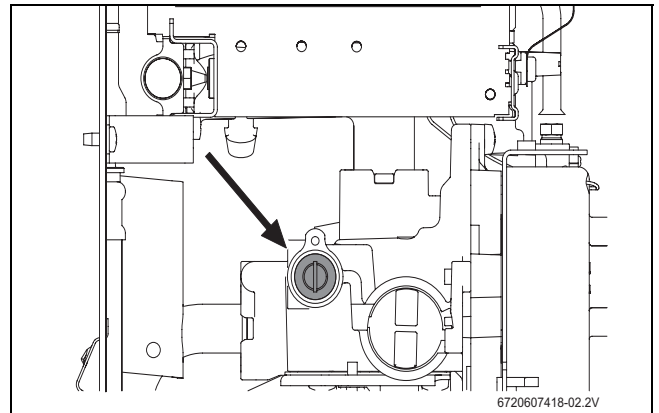

Fig. 17 Maximum gas flow adjusting screw
- ▶ Remove the seal from the adjusting screw (Fig. 17).
- ▶ Using the adjusting screw (Fig. 17), regulate the gas pressure until the values indicated in the table 6 are achieved.